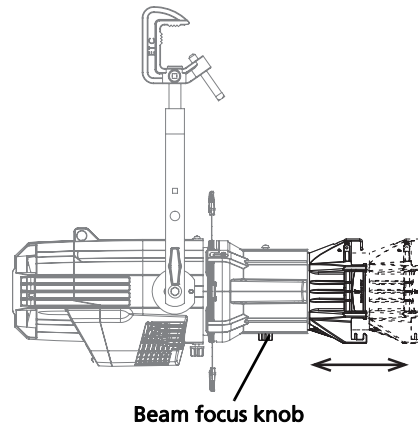

Figure-2.4 Focusing the beam
- 1: Loosen the beam focus knob located under the barrel as shown in Figure-2.4.